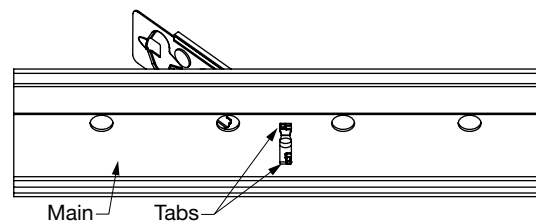

Fig 17
- Place one of the Angle Brackets with the tabs registering inside of the rout hole (**Fig 17**)